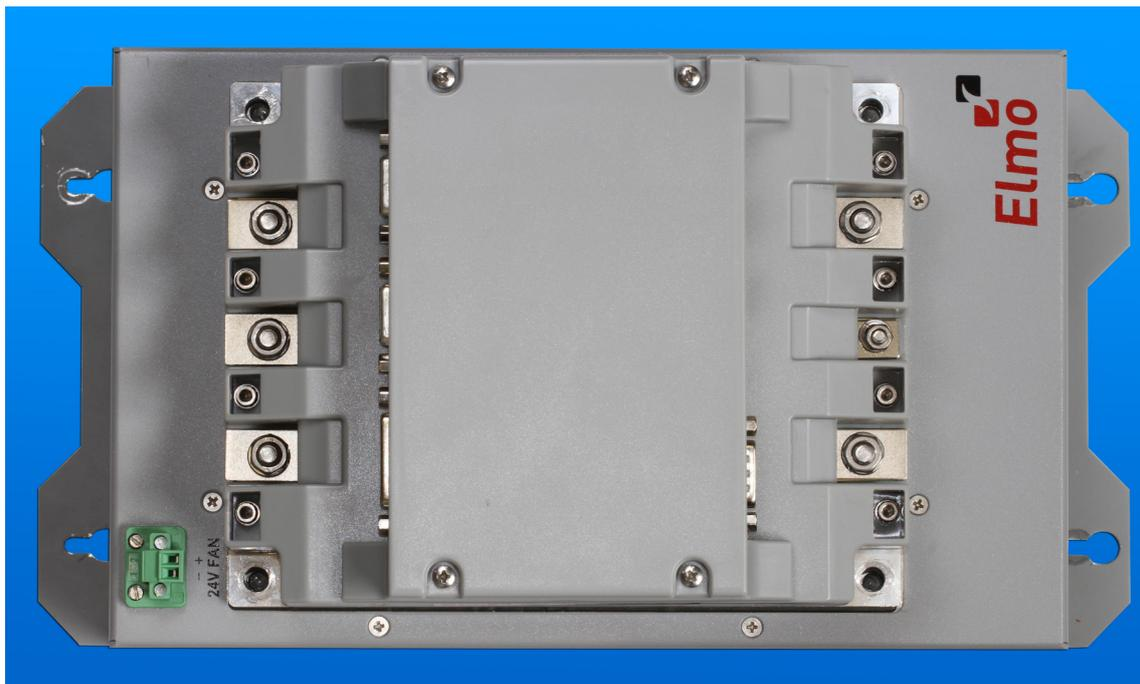

Figure 5: Drum and Heat Sink screw holes aligned
4. Make sure that the Drum and Heat sink screw holes are aligned as shown in Figure 5.